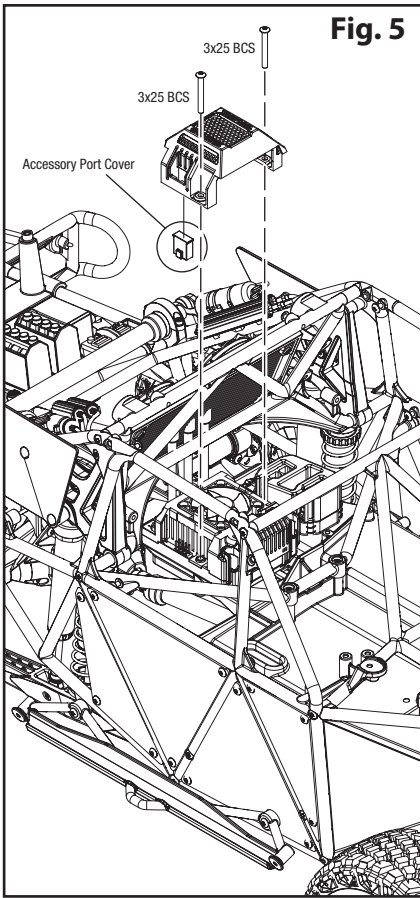

Fig. 5
2. Remove the 3x25mm button-head screws (2) from the electronic speed control (ESC) to remove the cooling fan cover (Fig 5).
3. Remove the accessory port cover (Fig. 5); then, reinstall the cooling fan cover on the ESC using the 3x25mm button-head screws. Be careful not to pinch the ESC wires during reinstallation.